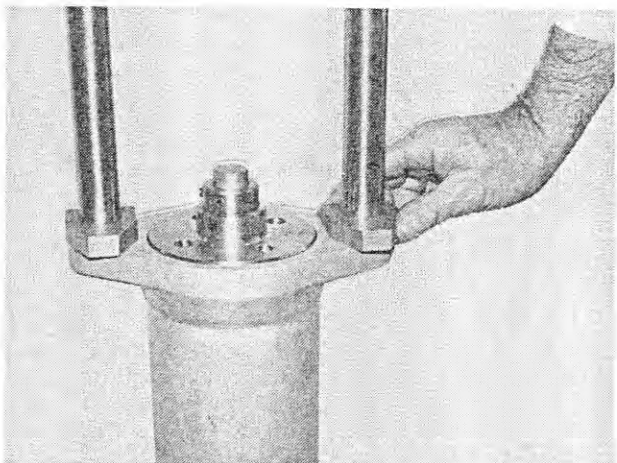

Fig. 223
23. Turn the clamping pieces by 90° (Figure 223).